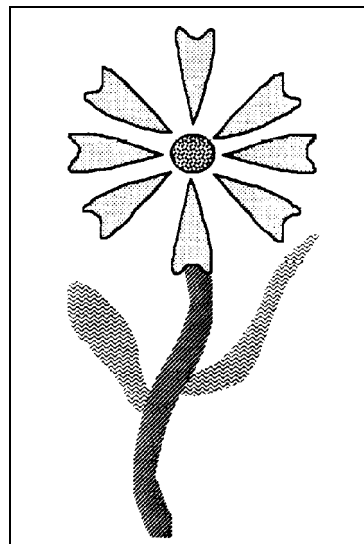

Figure 5-23
1. Refer to the illustration of the flower in Figure 5-23 and choose the top petal as the model for the symbol.